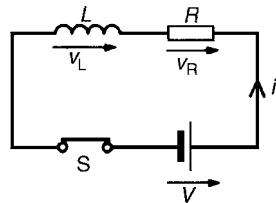

Figure 18.10
- (a) The circuit diagram for a series connected  $L - R$  circuit is shown in Fig. 18.10. When switch S is